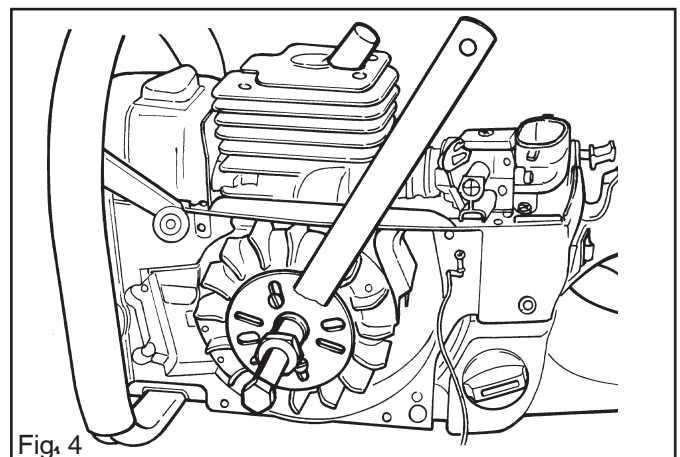

Fig. 4
1. If a new spring is to be fitted, place the new spring with steel wire so that the end loop comes over the peg (A) in starter pulley. See fig. 4.
8. Fit the flywheel puller (*See "3 Service tools" on page 8*). Tighten down the two M5x25 bolts approx. 10 turns. Tighten the centre bolt, while preventing rotation with the holding tool until the flywheel releases. See fig. 4.